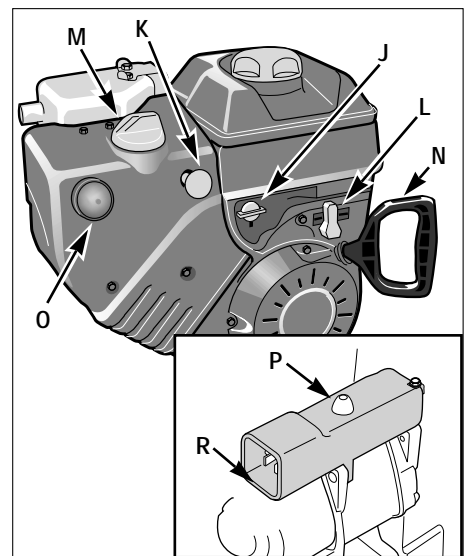

Figure 4-2
3. Rotate the Fuel Shut-Off Valve (J, Figure 4-2) 1/4 turn counterclockwise to the ON (open) position.
4. Move the Throttle Lever (L, Figure 4-2) to the FAST position.
5. Insert the Stop Switch Key (K, Figure 4-2) all the way into the switch. (The key was included in the hardware bag with other loose parts.)
6. Turn Choke Knob (M, Figure 4-2) to CHOKE setting (a warm engine may not require choking when restarting).
7. Push the Primer Button (O, Figure 4-2) three times (cover hole in center of bulb when pushing).
- a. Before pulling recoil starter (N, Figure 4-2), be sure there are no obstacles behind you.
- c. Let engine warm up. Rotate Choke Knob (M, Figure 4-2) toward RUN setting a little at a time over several seconds in warm weather, or minutes in cold weather. Let engine run smoothly before each change. Operate engine with choke in RUN.
- a. Plug power cord supplied with unit into the electric start switch box (R, Figure 4-2) on the engine.
- c. Push the starter button (P, Figure 4-2) on the switch box. When the engine starts, release the button.
- d. Let engine warm up. Rotate Choke Knob (M, Figure 4-2) toward RUN setting a little at a time over several seconds in warm weather, or minutes in cold weather. Let engine run smoothly before each change. Operate engine with choke in RUN.
2. Move the Throttle Lever (L, Figure 4-2) to the STOP position or pull the engine Stop Switch key (K, Figure 4-2) out.
2. Move the Throttle Lever (L, Figure 4-2) into the SLOW "☛" position. Allow the engine to idle for several minutes to melt any snow on the engine. Then move throttle to STOP position.
3. Pull engine Stop Switch key (K, Figure 4-2) out. To prevent unauthorized use of unit, remove key and store it in a safe place.
4. Rotate Fuel Shut-Off Valve (J, Figure 4-2) 1/4 turn clockwise to OFF (closed) position.